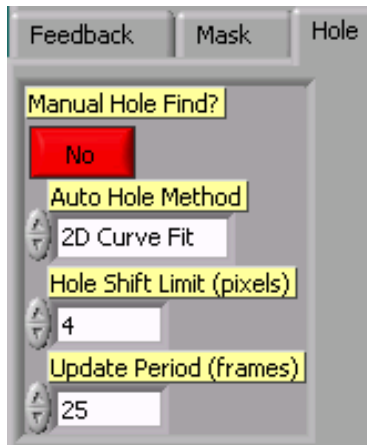

Figure 13 - Hole tab window
- 2) Selects the **Hole** menu and turn on **Yes** the “**Manual Hole find**” option (Figure 13). From the Hole menu the operator can choose the “Auto Hole Mode” (**2D Curve Method** or **Centroid** algorithm depending on the situation).
- 5) Selects the **Hole** menu and turn on **No** the “**Manual Hole find**” option (Figure 13).